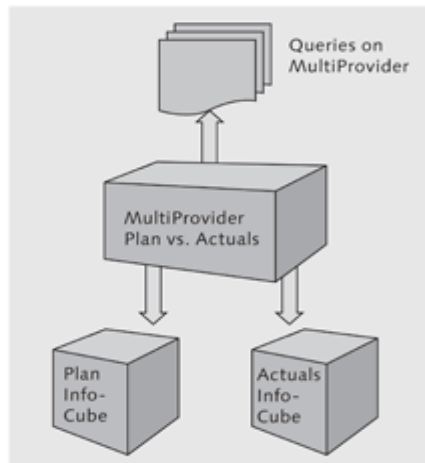

Figure 6.2 MultiProvider Example: Plan Versus Actual
Figure 6.2 shows an example of including two InfoCubes in a MultiProvider: InfoCubes on planning data and the other on actual sales. While the Actuals InfoCube stores the data from actual sales, the Plan InfoCube stores the data on planning. Another example of creating a MultiProvider based on InfoCube and InfoObject is having a sales InfoCube and the InfoObject OMATERIAL. The queries on this MultiProvider might be for identifying the slow-moving material.
- ▶ The system uses parallel processing when queries on a MultiProvider are executed. As shown in Figure 6.2, when a query is executed on MultiProvider plan versus actuals, the system internally starts multiple subqueries in parallel. After the results of these queries are available, they are combined using the union operation and presented to the user. The union operation combines result data sets from subqueries.